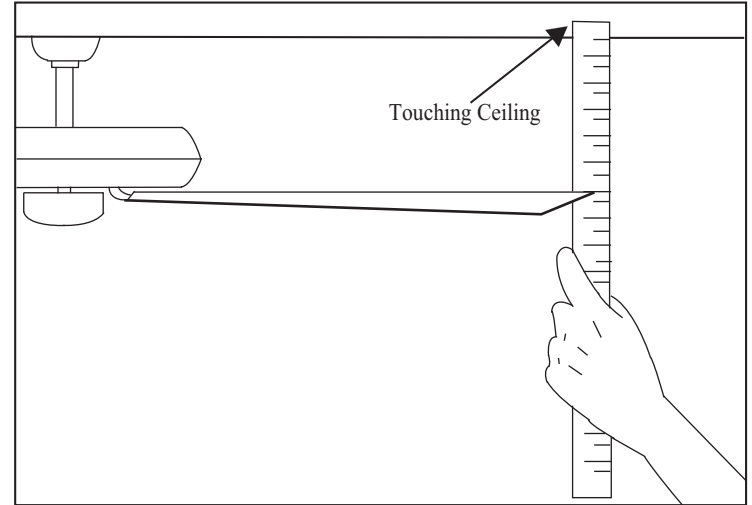

Figure 15
2. Most fan wobble problems are caused when blade levels are unequal. Check this level by selecting a point on the ceiling above the tip of one of the blades. Measure from a point on the center of each blade to the point on the ceiling. Measure this distance as shown in Figure 15. Rotate the fan until the next blade is positioned for measurement. Repeat for each blade. Measurements deviation should be within $1/8$ ". Run the fan for 10 Minutes.